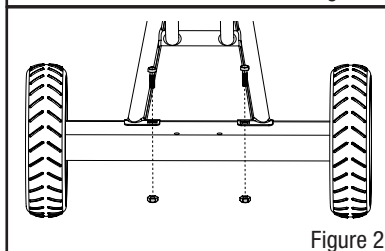

Figure 2
- Attach both nuts under the deck and tighten them securely with the bolts as shown (see figure 2).